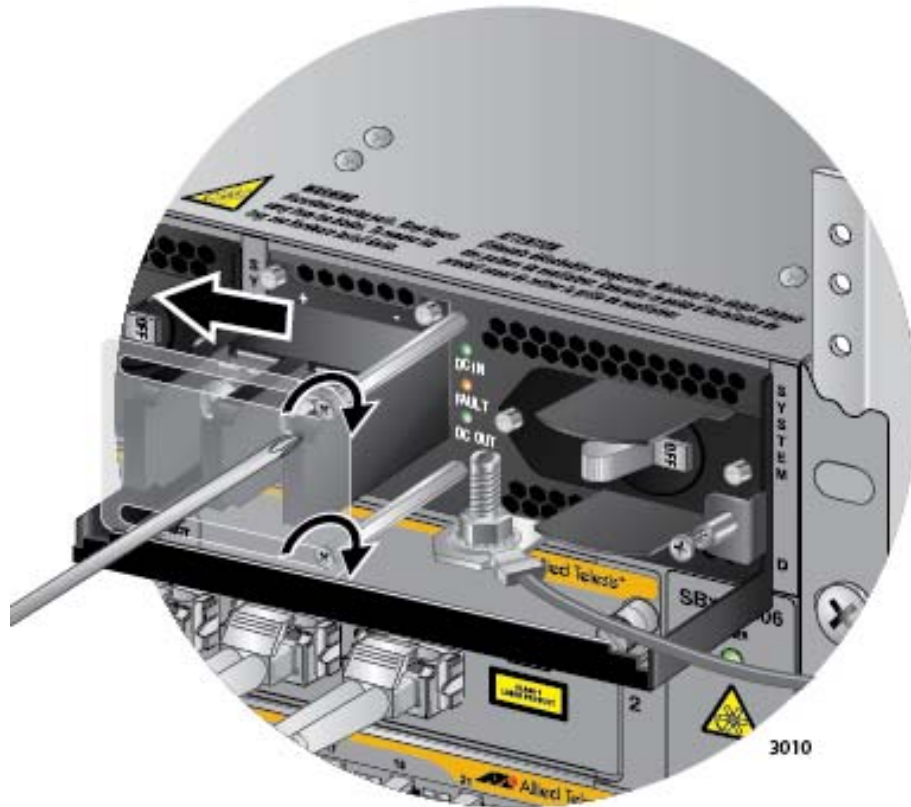

Figure 166. Closing the Plastic Cover
8. Slide the plastic cover to the left and lightly tighten the two screws to secure it in place. Refer to Figure 166 on page 268.